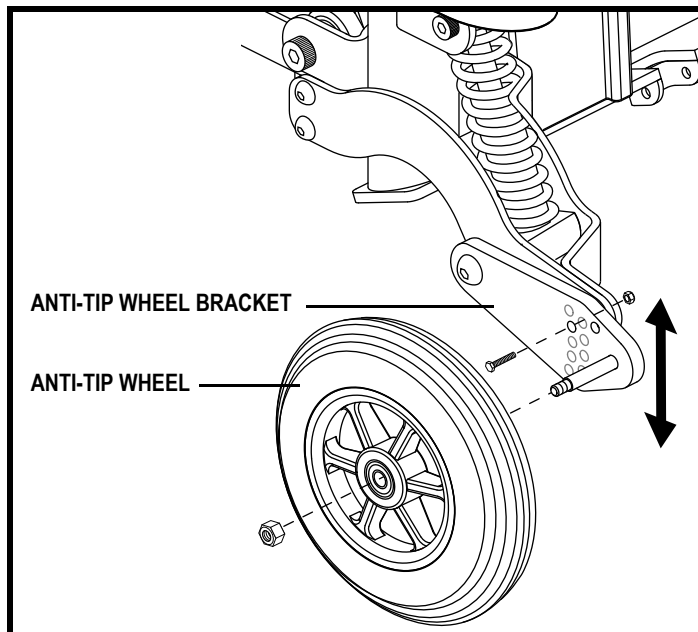

Figure 20. Anti-Tip Wheel Adjustment
2. Remove the nut and bolt on the anti-tip bracket. See figure 20.